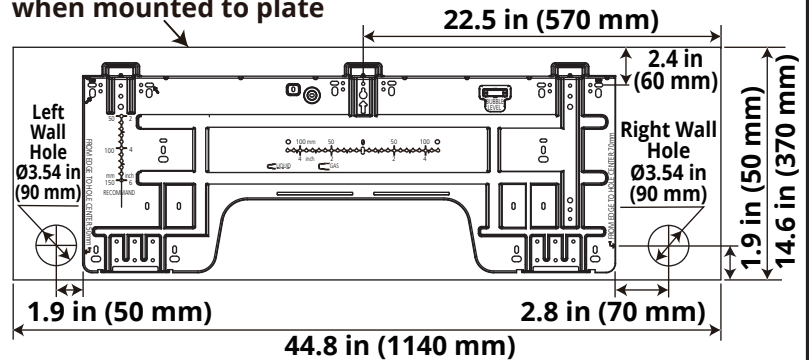

Fig. 5.3
2. Place the mounting plate against the wall in a location that meets the guidelines in the **Selecting an Installation Location** step. **Refer to the illustrations in Fig. 5.3 for more information on mounting plate sizes.**
1. Determine the location of the wall hole based on the position of the mounting plate. Refer to the **Mounting Plate Dimensions (Fig 5.3)** to assist you in determining the optimal position for the hole, based on the type of mounting plate provided with your unit.